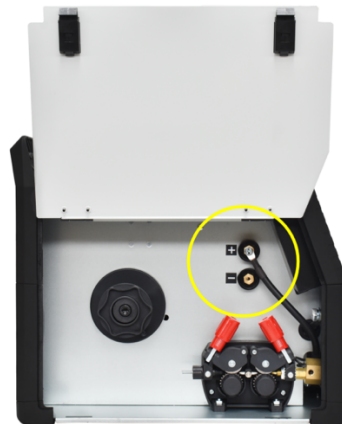
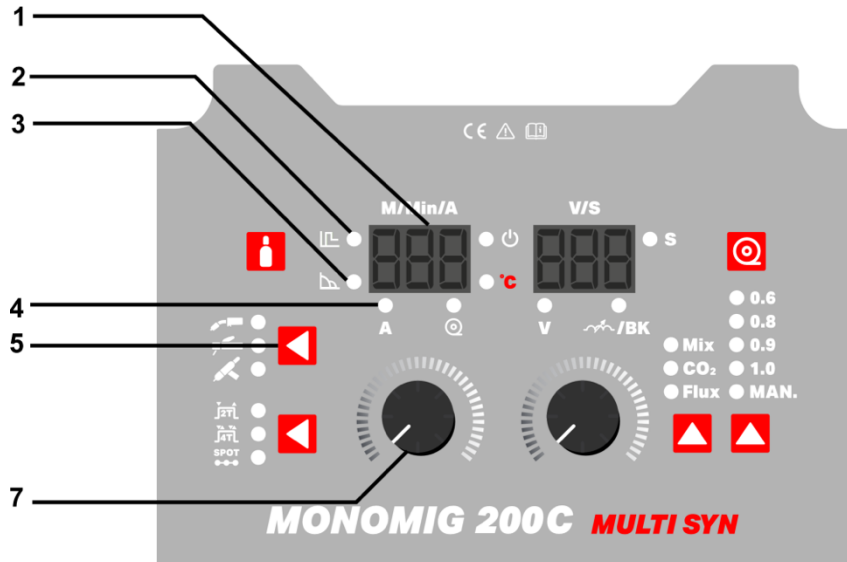

Fig.6
Fig.7
Note: when welding with flux cored wires, one may need to change the polarity according to wire manufacturer's recommendation. The plugs to change polarity are located inside the machine (see Fig.6).
- Select MMA welding (coated electrode), pressing button 5 (Fig.7) until led MMA lits.
- Adjust the welding current through knob 7 (Fig.7). Led 4 (Fig.7) lits and the desired current is showed in display 1 (Fig.7) During welding, this parameter is continuously active (by turning knob 7 (Fig. 6), the welding current is regulated.
- Select Hot Start by pressing knob 7 (Fig.7) until led 2 (Fig.7) lits. Adjust Hot Start - To improve the arc ignition, adjust from 0 - 10 by turning knob 7 (Fig.7).
- Select Arc Force by pressing knob 7 (Fig.7) until led 3 (Fig.7) lits. Adjust Arc Force - To avoid the electrode sticking to the workpiece during welding, from 0 – 10, by turning knob 7 (Fig.7).